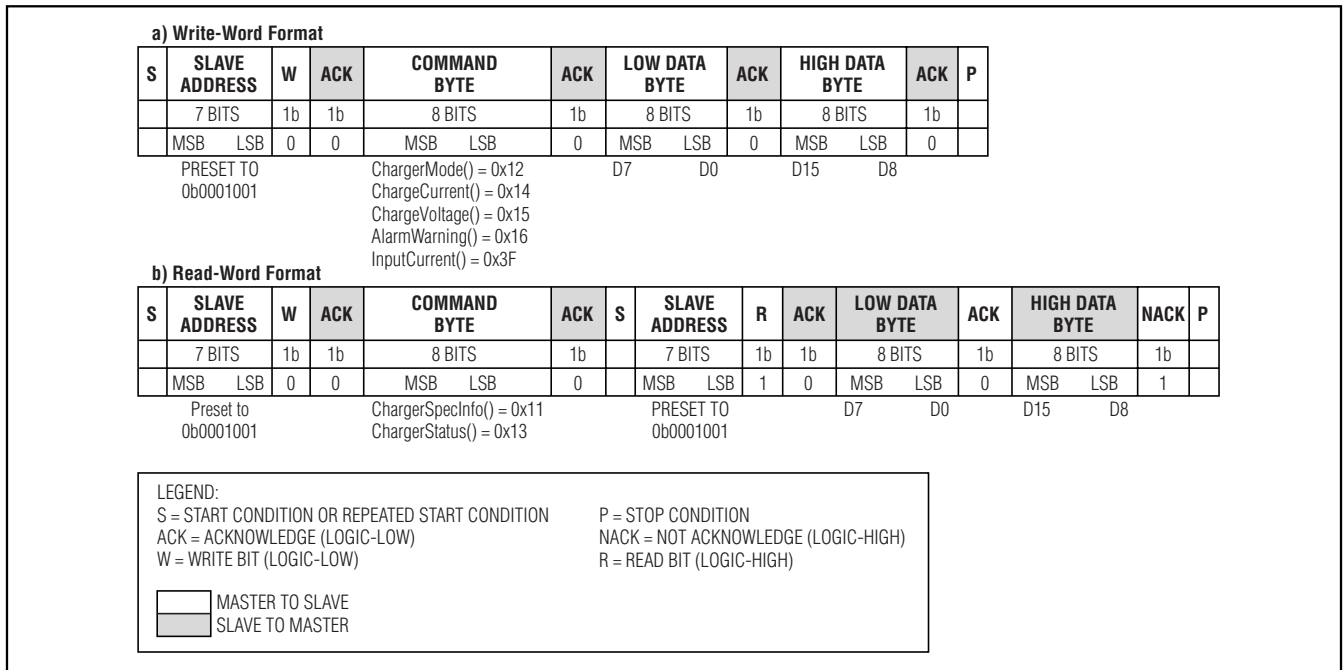

Figure 3. SMBus Write-Word and Read-Word Protocols
To set the charge current, use the SMBus to write a 16-bit ChargeCurrent() command using the data format listed in Table 2. The ChargeCurrent() command uses the Write-Word protocol (see Figure 3). The command code for ChargeCurrent() is 0x14 (0b00010100). When  $RS2 = 10m\Omega$ , the MAX8731 provides a charge current range of 128mA to 8.064A, with 128mA resolution. Set ChargeCurrent() to 0 to terminate charging. Upon reset, the ChargeVoltage() and ChargeCurrent() values are cleared and the charger remains off until both the ChargeVoltage() and the ChargeCurrent() commands are sent. Both DHI and DLO remain low until the charger is restarted.
To set the input current limit, use the SMBus to write a 16-bit InputCurrent() command using the data format listed in Table 3. The InputCurrent() command uses the Write-Word protocol (see Figure 3). The command code for InputCurrent() is 0x3F (0b00111111). When  $RS1 = 10\text{m}\Omega$ , the MAX8731 provides an input-current-limit range of 256mA to 11.004A, with 256mA resolution. InputCurrent() settings from 1mA to 256mA result in a current limit of 256mA. Upon reset the input current limit is 256mA.
The MAX8731 receives control inputs from the SMBus interface. The MAX8731 uses a simplified subset of the commands documented in System Management Bus Specification V1.1, which can be downloaded from [www.smbus.org](http://www.smbus.org). The MAX8731 uses the SMBus Read-Word and Write-Word protocols (Figure 3) to communicate with the smart battery. The MAX8731 performs only as an SMBus slave device with address 0b0001001\_ (0x12) and does not initiate communication on the bus. In addition, the MAX8731 has two identification (ID) registers (0xFE): a 16-bit device ID register and a 16-bit manufacturer ID register (0xFF).